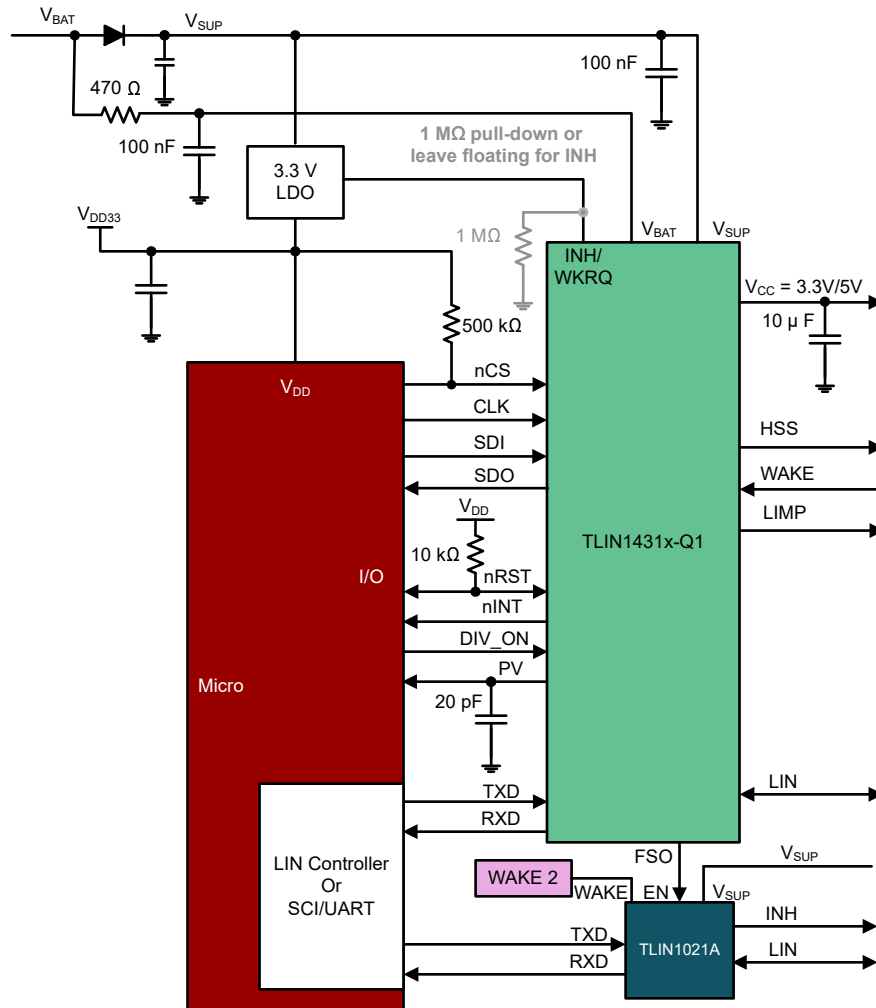

**Figure 8-20. Channel Expansion: Enhanced LIN Transceiver**
- Two LIN transceivers with two WAKE and INH capability by using an enhanced eight pin LIN transceiver (see Figure 8-20)